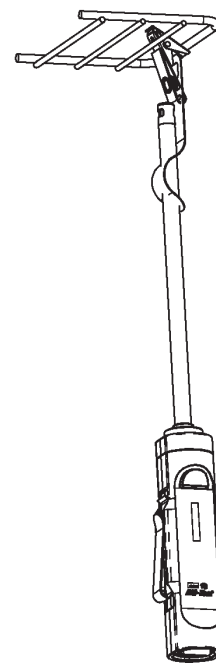

Fig. 34: Probe Clip Hanger used on a wire shelf
- Walk-in freezer/cooler measurements require that the probe be placed in or around the product racks and not near the door. Do not let the probe tip touch the rack. The probe will require more time to stabilize due to the larger differential between room temperature and freezer/cooler temperature. Keep the probe in place for 15 to 20 minutes or until the reading stabilizes. The Probe Clip Hanger makes this easier by holding the probe for you (Fig. 34).